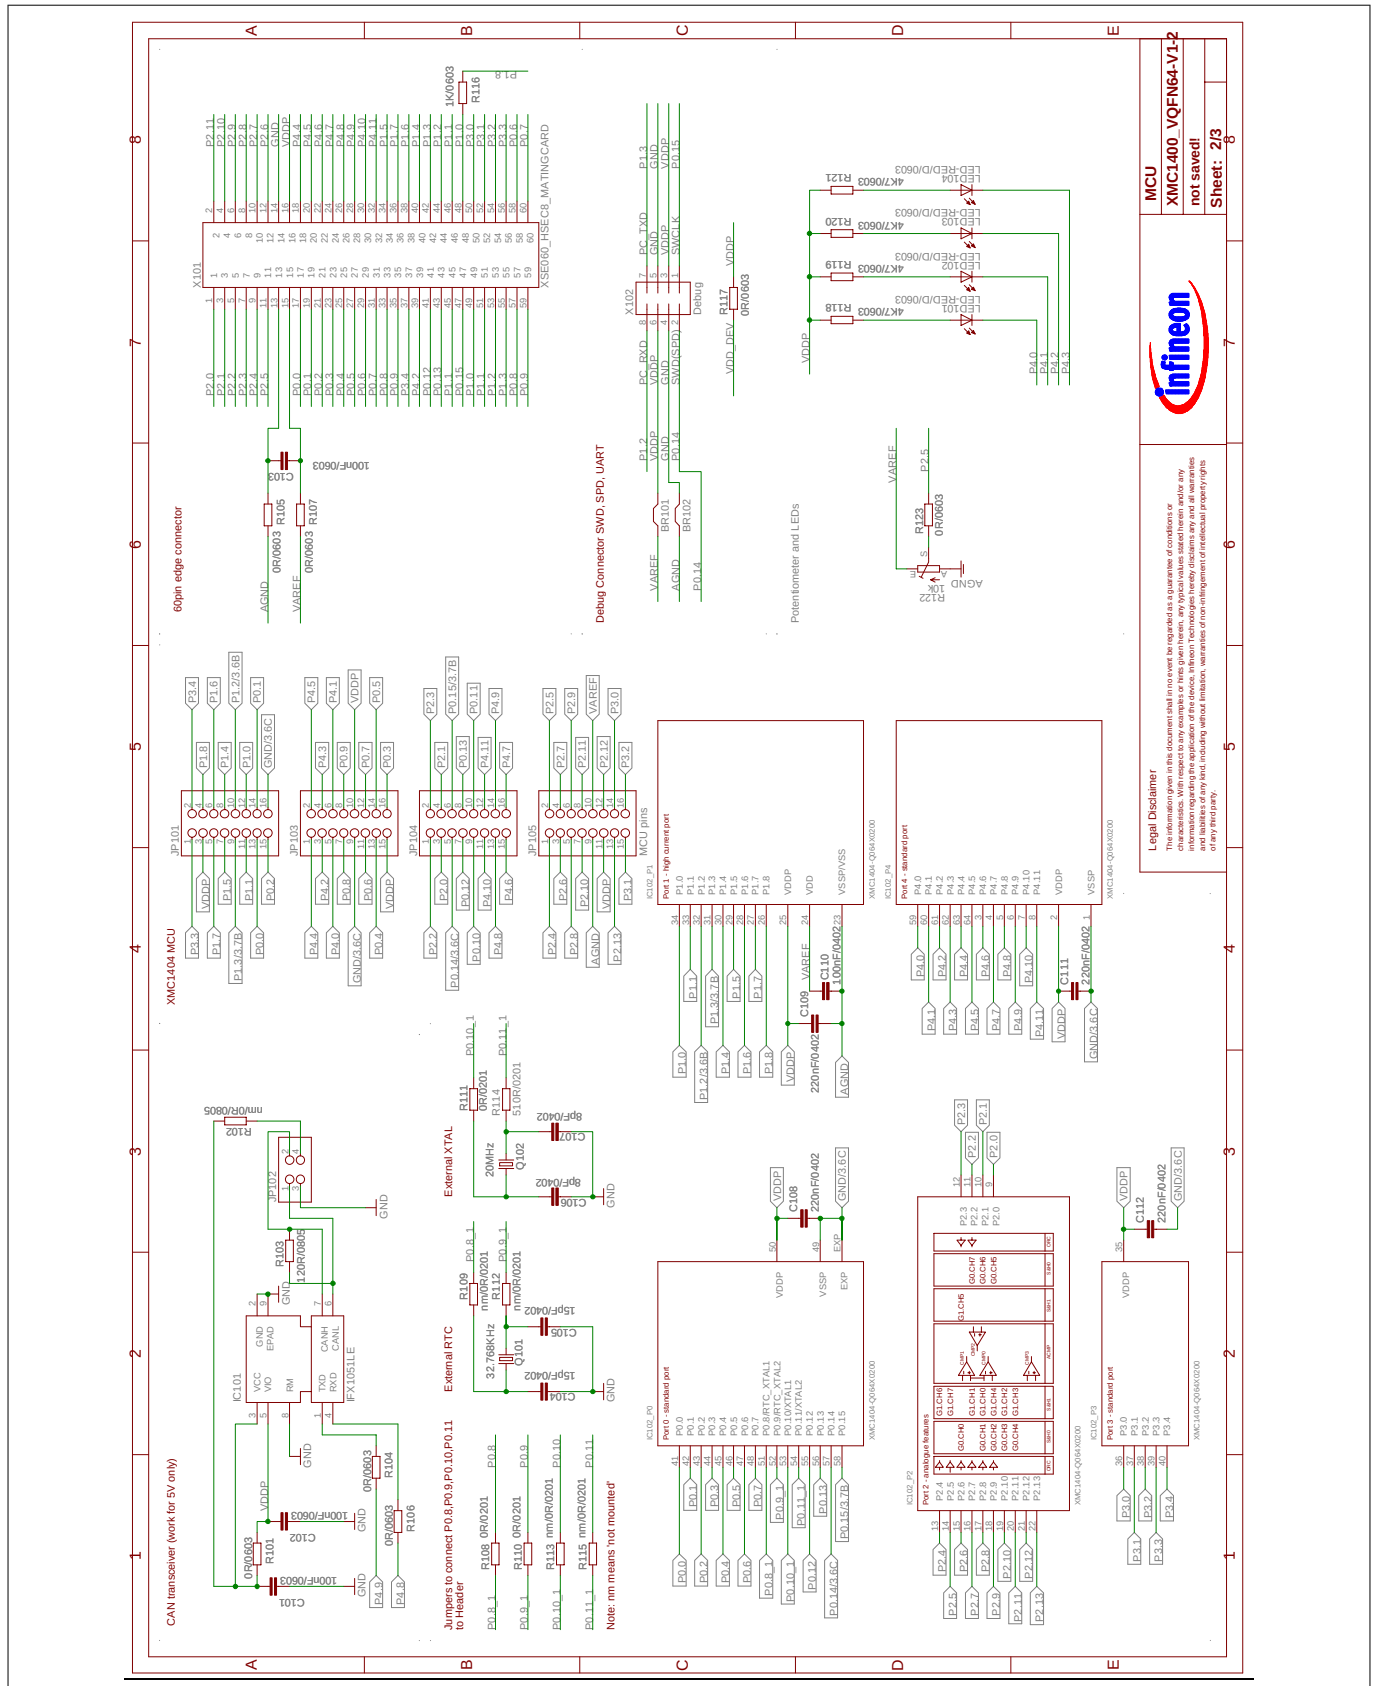

Figure 12 Schematic 1 of 2 XMC1400 Boot Kit
- Figure 12: CPU, Pin Headers, external crystals, CAN transceiver circuitry, Potentiometer, LEDs and 60pin Edge connector